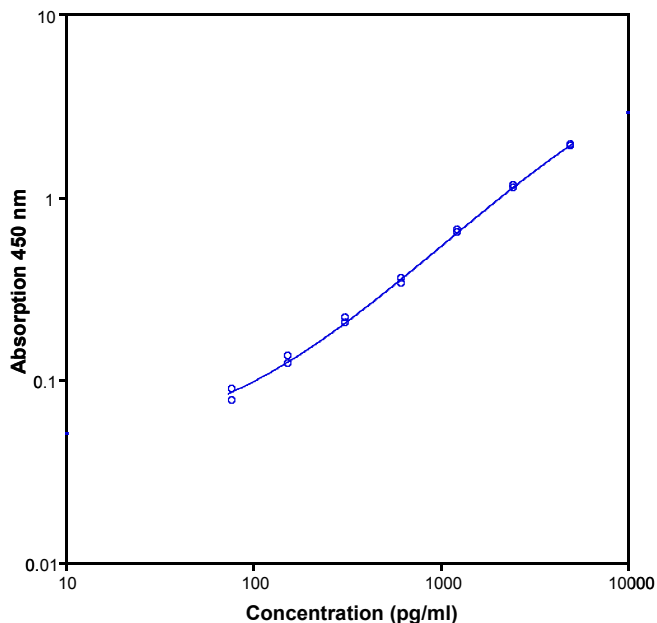

Fig. 8 Representative standard curve for Human PAI1 ELISA Kit. Human PAI1 was diluted in serial 2-fold steps in Assay Buffer (1x).
- A representative standard curve is shown in Figure 8.